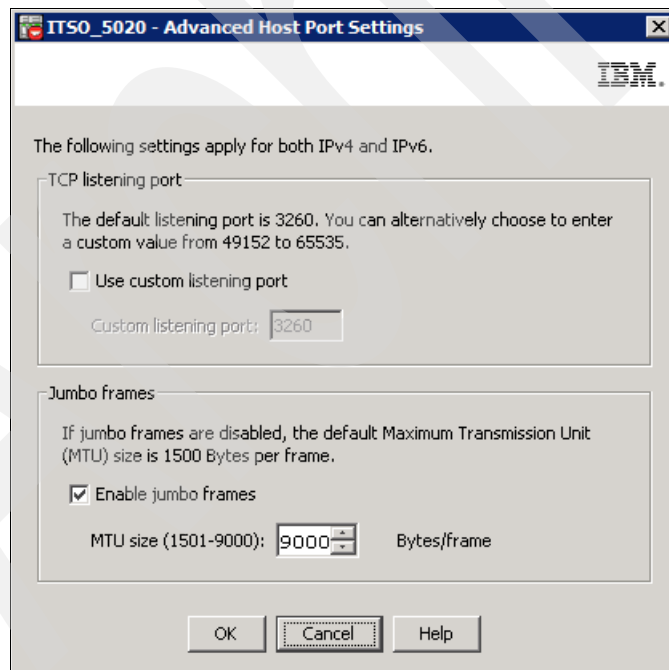

Figure 3-19 Jumbo Frames
3. If you plan to use Jumbo frames, click **Advanced Host Port Settings**, to enable it and select the frame size to either 1500 or 9000 Bytes. You can change here the default TCP port 3260 for any other port. See Figure 3-19.